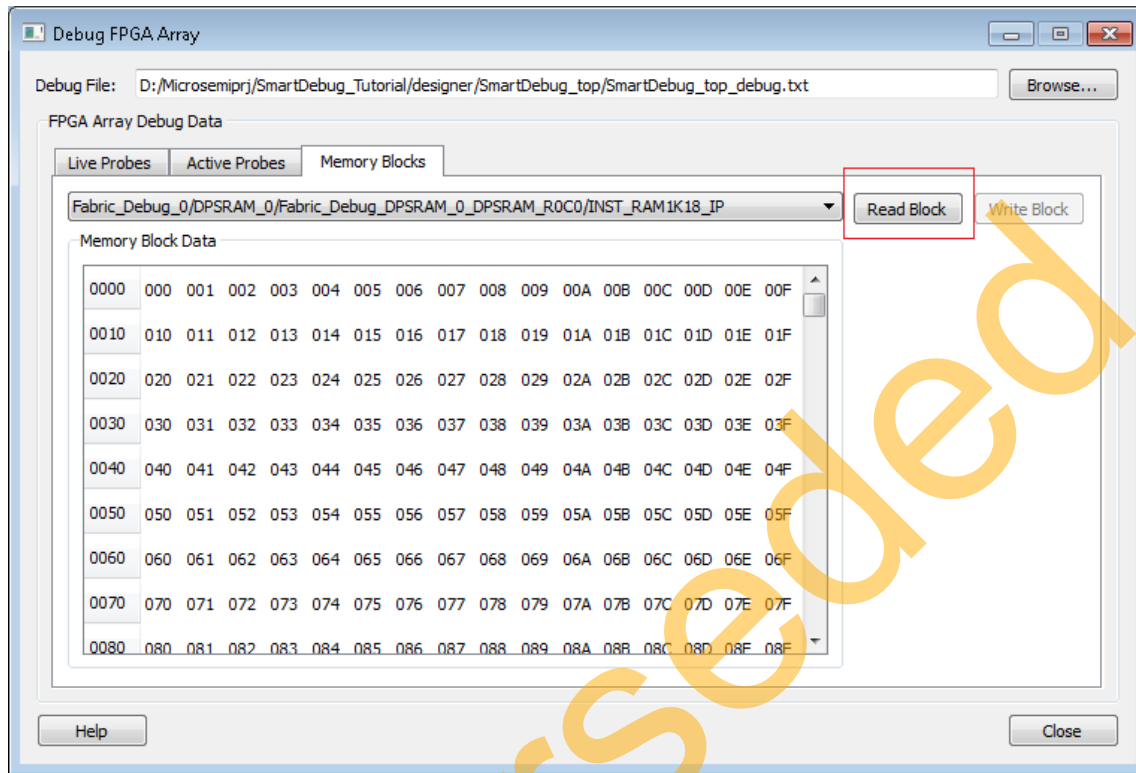

Figure 19 • DPSRAM_0 Contents
The contents of the DPSRAM_0 will be displayed, as shown in Figure 19. See the counting pattern that is loaded into the RAM.
1. Read the memory content, as shown in Figure 19